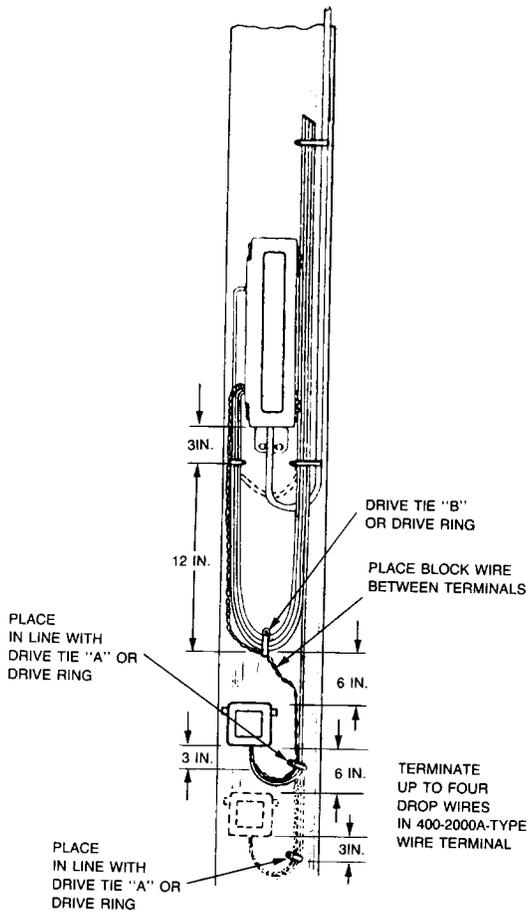

Fig. 26 - Wiring 400-2000A-Type Terminal at Pole Mounted Cable Terminal
5.02 See Section SW 462-240-900 for a description of 400-2000A wire terminal. The 400-2000A wire terminal supercedes the 101A, 101B, 101B2 and 101C wire terminals. It is used for making party line taps in drop and block wire runs, in distributing drops from cable and open wire lines, and in placing fusible links. The 400-2000A wire terminal should be mounted on poles on walls as shown on Fig. 26, 27, 28 and 29.